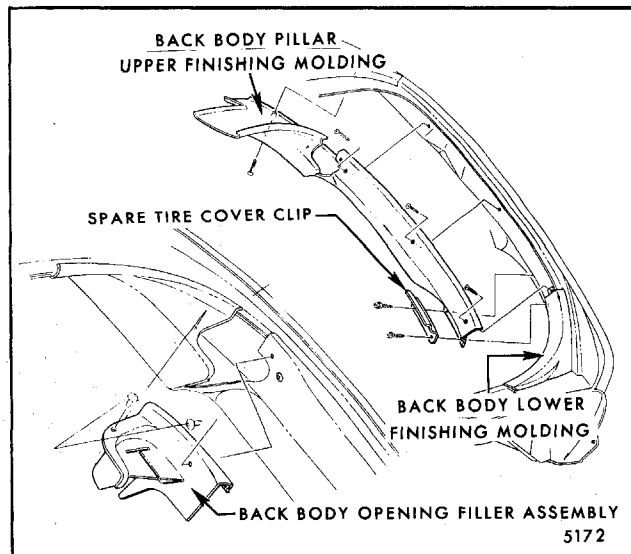

Fig. 7-113-Back Body Pillar Upper Finishing Molding - Right Side Shown
1. Remove back body opening filler assembly attaching screws and disengage filler assembly from back body pillar upper finishing molding (Fig. 7-113).
finishing molding and disengage pillar molding from back body pillar (Figs. 7-113 and 7-114).